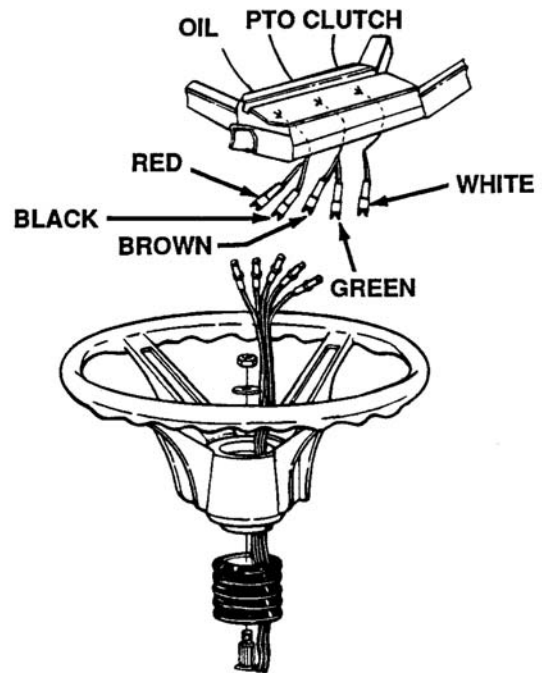

Figure 3-4. Steering Wheel
- b. Place the five wires through the slotted hole located towards the center of the steering wheel hub. With the front wheels positioned straight forward, place the steering wheel over the steering shaft. Secure with the cupped washer and lock nut provided in the screw-pack. See Figure 3-4.